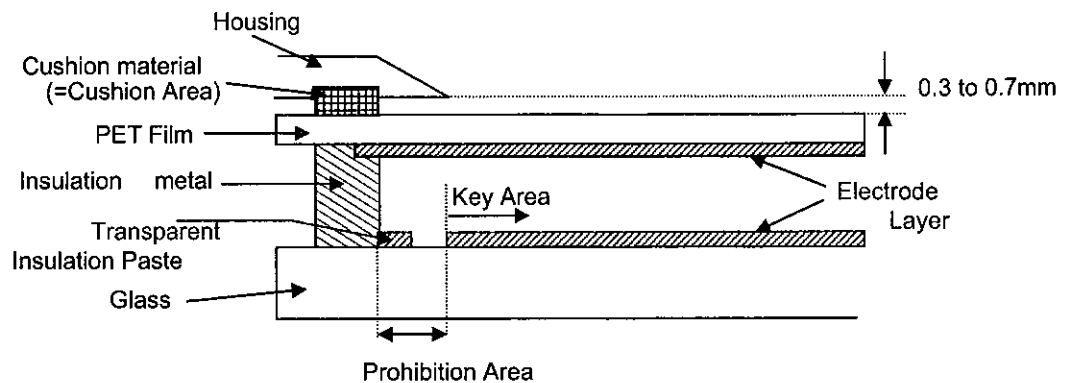

Fig.4
The reason is to avoid the bezel edge from contacting T/P surface that may cause a "short" with bottom layer. (See Fig.4)
3) Packing form: As shown in Figure 4.